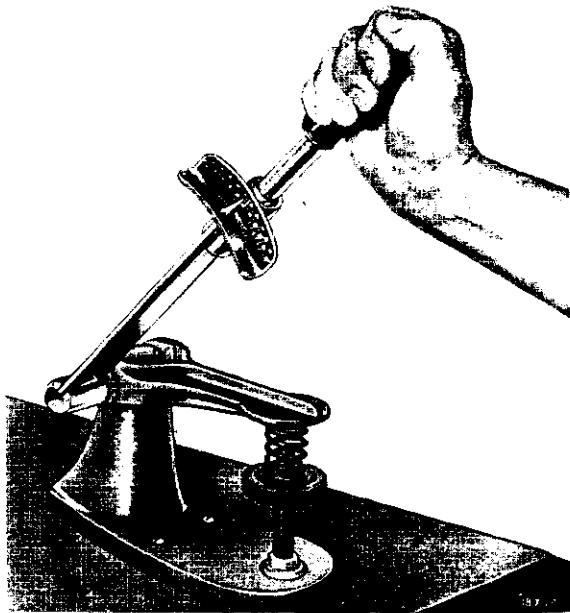

Fig. 5—Testing Clutch Pressure Springs
(9) The eyebolts should be a snug but free fit in the pressure plate.
(10) The rollers and the lugs of the pressure plate should not show excessive wear. The three sections of each roller should be free on the pin and free to revolve independently.
(11) The inner ends of the release levers should have a uniform wear pattern. Levers which are rough or badly worn should be replaced.
(12) It is advisable to test pressure springs when the clutch is dismantled after considerable service or if there has been a great amount of slippage creating excessive heat, which may have caused the springs to lose their initial load. To test a spring, first determine the length at which the spring is to be tested. As an example, the compressed length of the spring to be tested is  $1\frac{5}{16}$  inch. Turn the table of Tool C-647 until surface is in line with the  $1\frac{5}{16}$  inch mark on the threaded stud and the zero mark to the front. Place spring over stud on table and lift compressing lever to set tone device. Pull on torque wrench tool C-3005 as shown in Figure 5, until ping is heard. Take reading on wrench at this instant. Multiply reading by two. This will give the spring load to the test length. Fractional measurements are indicated on table of finer adjustments. (Refer to Specifications and select model of clutch for spring pressure.) Discard springs that do not meet minimum requirement.